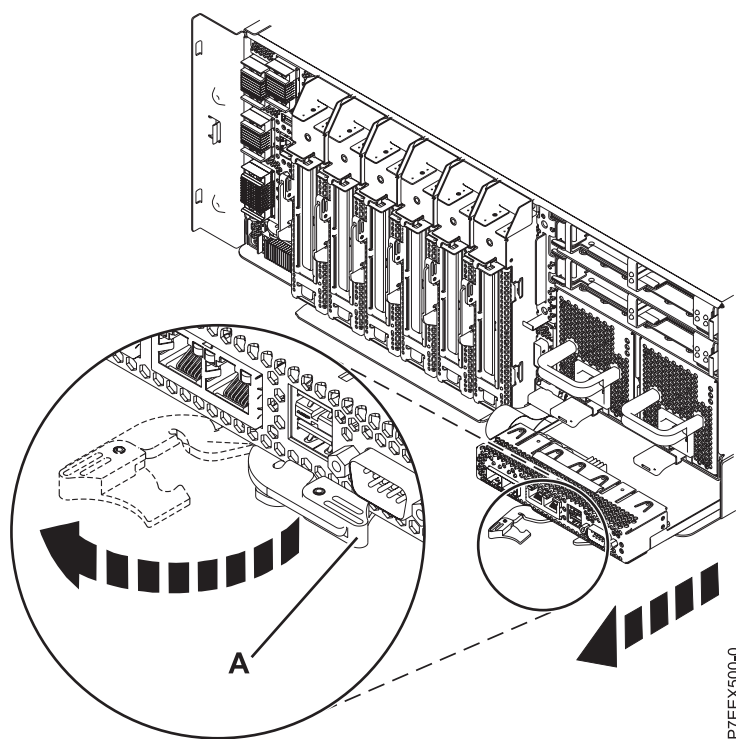

Figure 1. Removing an integrated multifunction card for the 8248-L4T, 8408-E8D, or 9109-RMD
5. Locate the integrated multifunction card that you want to remove as shown in Figure 1 on page 4.